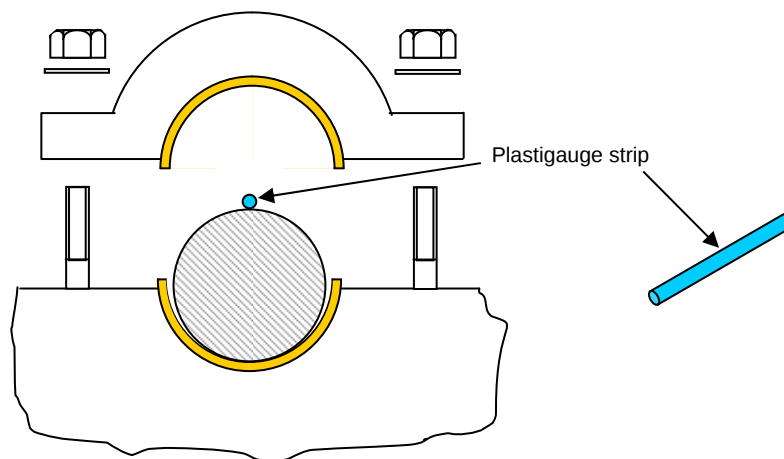

Figure 4.21: Using Plastigauge Strip
1. With the bearing cap removed, place a length of Plastigauge strip on the shaft journal or the top bearing shell (**Fig. 4.21**).